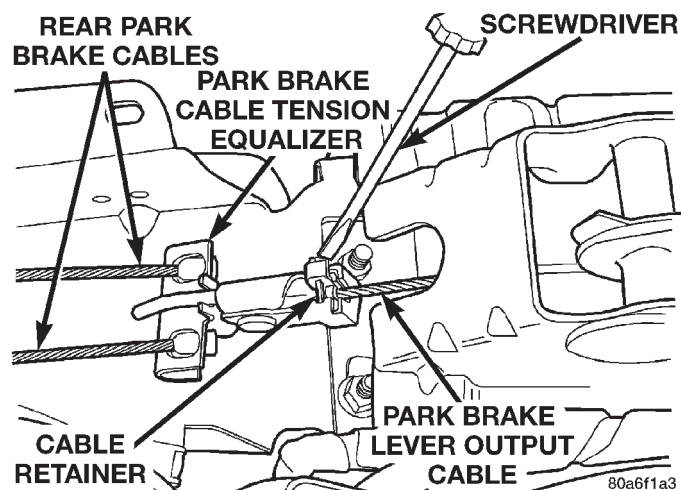

Fig. 155 Output Cable To Equalizer Retaining Clip
(13) Using a screwdriver (Fig. 155) unlatch the park brake output cable retainer. Then remove cable retainer and park brake cable tension equalizer from park brake lever output cable **and discard components**.